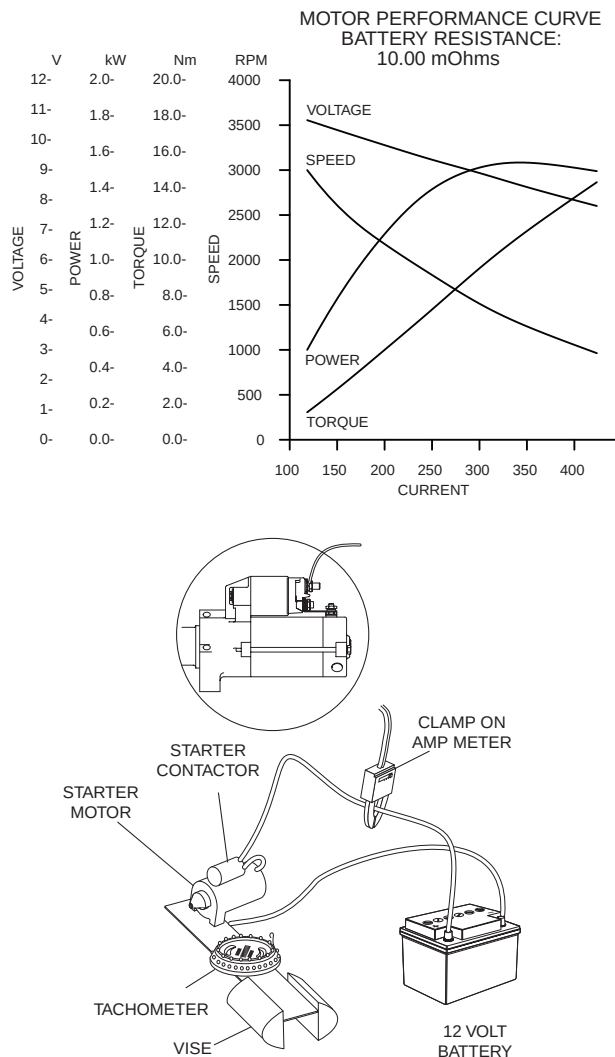

Figure 12. Testing Starter Motor Performance
It is recommended that the starter motor be removed from the engine when testing starter motor performance. Assemble starter to test bracket and clamp test bracket in vise, Figure 12.
2. Connect jumper cables and clamp-on ammeter as shown in Figure 12.